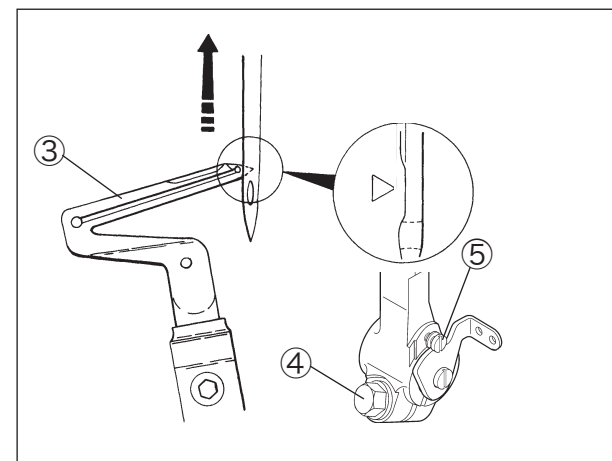

Fig. 2-5
1. After checking the needle heights, tighten screw ① of the needle bar bracket. (Refer to page 2 “2.1.1 Height of needle”)
3. Once the front-and-rear position of the lower looper has been adjusted, check the distance between the needle and the lower looper, then tighten screw ④ in Fig. 2-5.
4. Apply the liquid packing to the thread of the screw ② when tightening it.